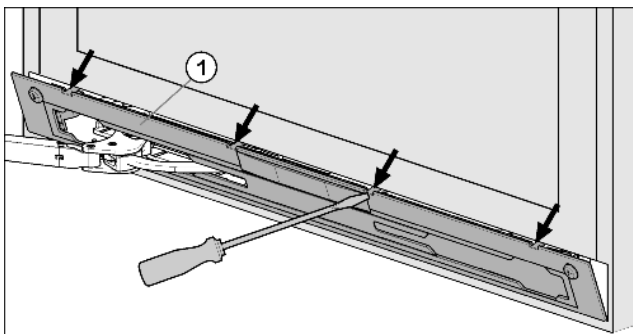

Fig. 8
- ▶ Disengage and remove the faceplate *Fig. 8 (1)* using a flat-blade screwdriver.